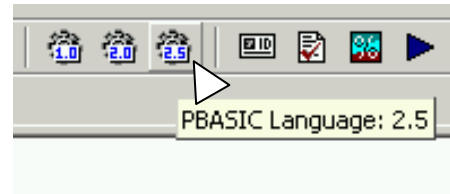

Figure 1-35
- √ Next, click on the gear icon labeled “2.5” shown highlighted in Figure 1-35. It’s flyover help description is “PBASIC Language: 2.5”.